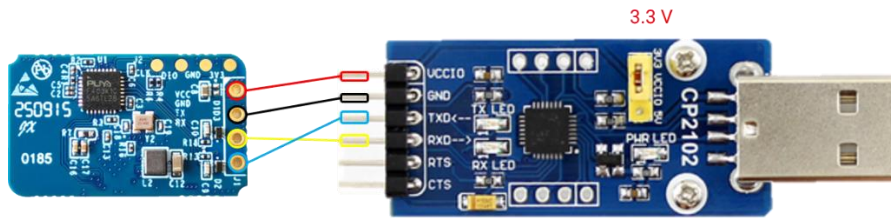

Figure 4-4 Example of connecting the Xen202TS hardware to the USB serial port tool
- d) Connect the XenP202TV module to the serial port tool using a connecting cable. The connection method is shown in Figure 4-4.